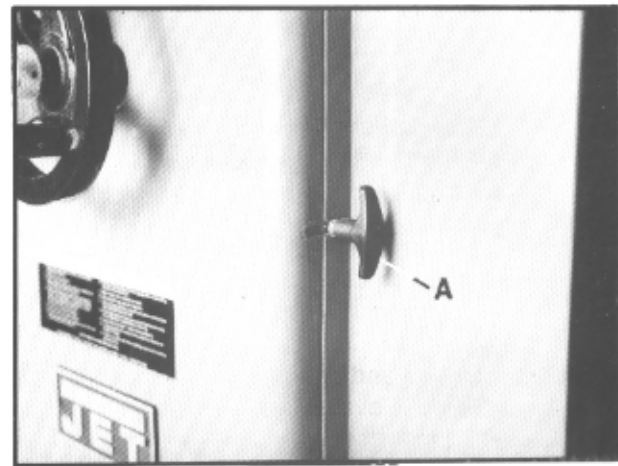

Fig. 2
5. Fasten cover by pulling out latch (A, Fig. 2), closing the door, and releasing the latch.